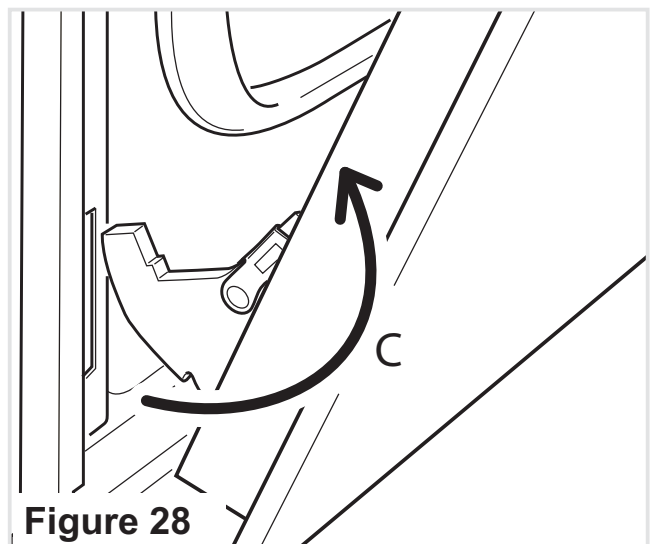

Figure 28
- Withdraw the hinge hooks from their location following arrow “C” (fig. 28).